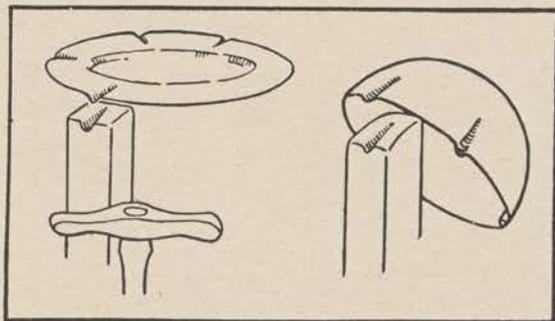

Figure 102.
c. Fluting is also a hammered form of decoration. It is applied chiefly to rims and edges. A wooden stake must be shaped to fit the rim of the bowl or tray. A groove is filed in the head of the stake to the shape of the flute desired. It may be of uniform width and depth, or it may taper at one end. The article is held over the stake and the metal hammered down into the groove with the narrow end of a wedge-shaped hammer (fig. 102).